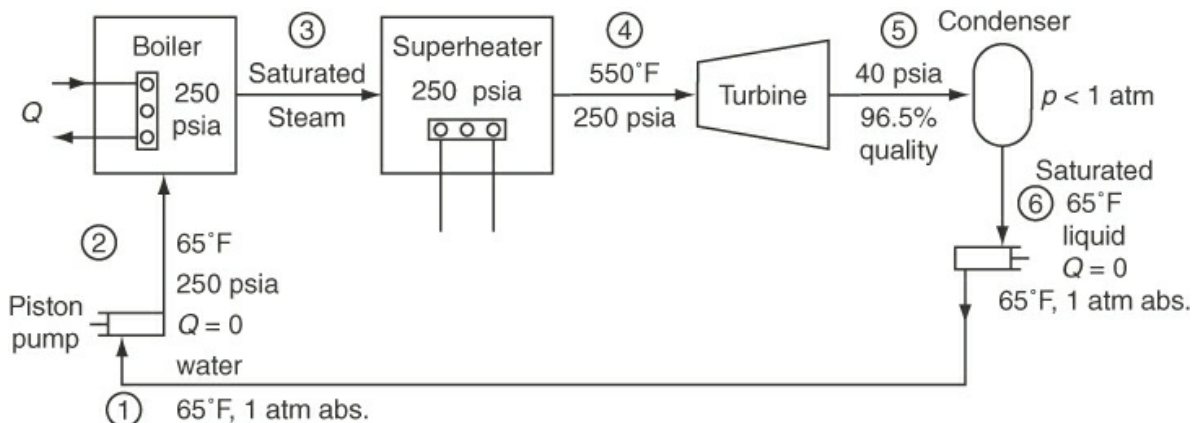

Figure P8.6.11
*****8.6.11** A power plant operates as shown in Figure P8.6.11. Assume that the pipes, boiler, and superheater are well lagged (insulated) and that friction can be neglected. Calculate (in British thermal units per pound of steam):